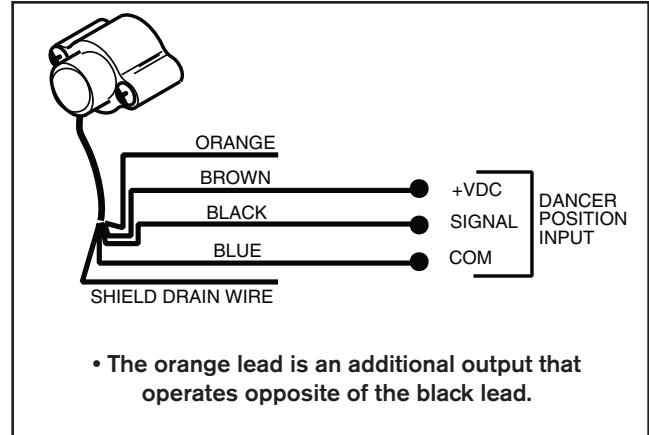

Figure 6
2. Connect the signal cable to a controller (See Figure 6).
2. Using a voltmeter, measure the voltage across the brown (+) and the blue (-) wires (See Figure 6). Voltmeter must match the supply voltage for proper operation (see specifications).
3. Attach the (+) lead to the signal wire from the sensor (See Figure 6).
Input power polarity is backwards.	Replace Dancer Position Sensor and connect it according to Figure 6.